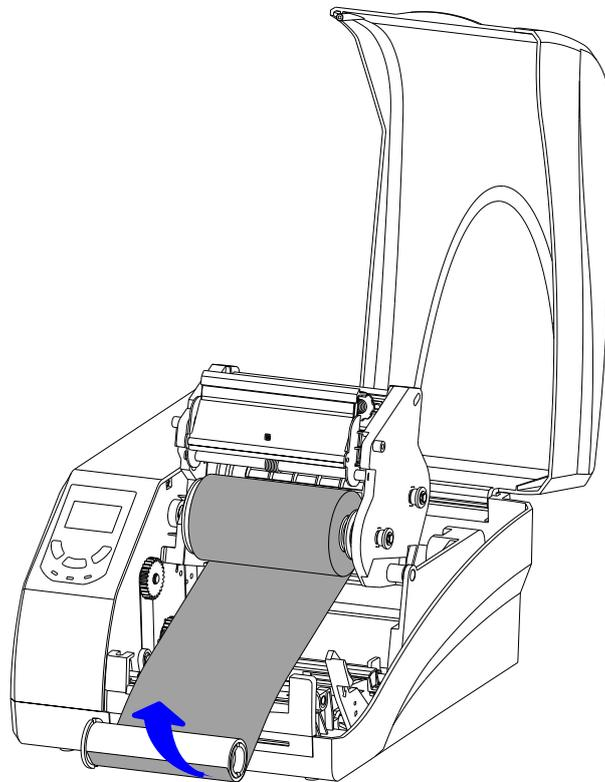

Figure 2-8 Wrap Ribbon on the Core
6. Route the ribbon through the Printhead Module and wrap the end of the ribbon around the spare core, see Figure 2-8.